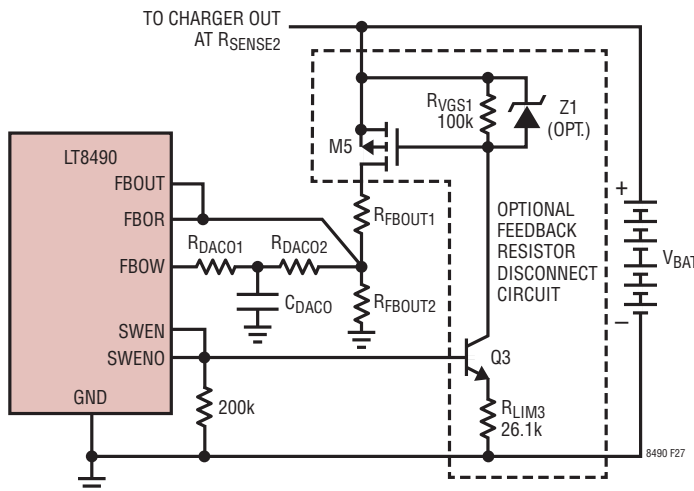
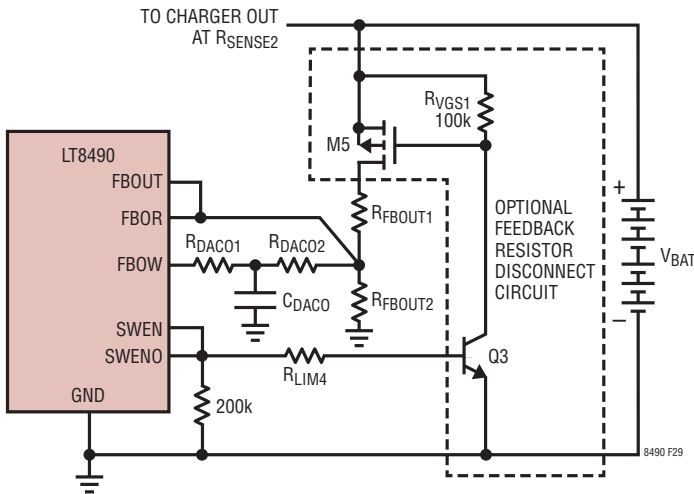
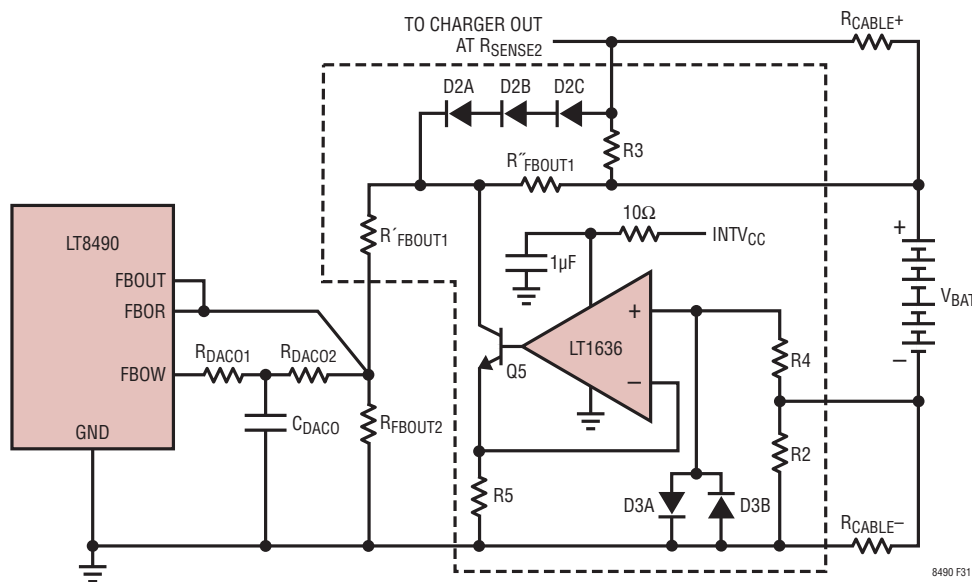
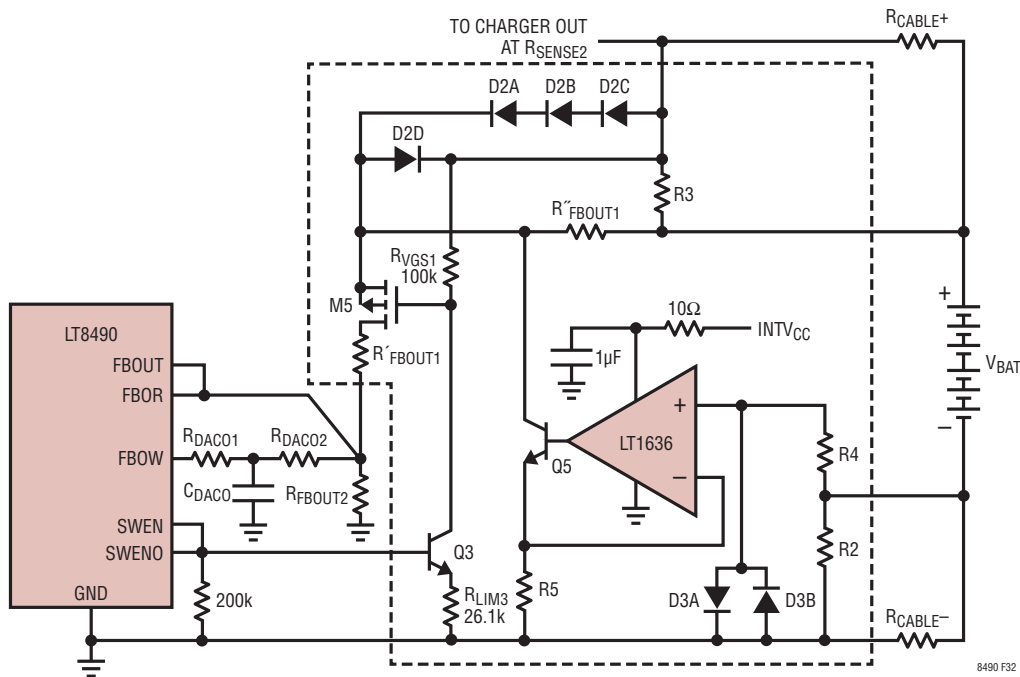

Figure 27. Optional Feedback Resistor Disconnect Circuit
Figure 28. Optional Low Battery Voltage Feedback Resistor Disconnect Circuit
Figure 31. Remove (+) and (-) Cable  $V_{IR}$  Measurement Errors
Figure 32. How to Combine Figure 27 and Figure 30
If desired, the resistors can be automatically disconnected from the battery when charging stops by using the circuit shown in Figure 27. This circuit is controlled by the SWENO signal from the LT8490 and connects the resistor feedback network when charging is taking place. When charging stops, the network is disconnected and current draw from the battery becomes negligible.
**SELECTING Z1:** Due to the transients that may occur during hot-plugging of a battery, this Zener diode is recommended to protect device M5 from excessive gate to source voltage. If using device Z1, the reverse breakdown voltage should be selected such that  $V_{GSon} < V_{Z1breakdown} < V_{GSMAX}$  where  $V_{GSMAX}$  is the maximum rated gate to source voltage specified by the device manufacturer. The BZT52C13 has a reverse breakdown voltage of 13V making it suitable for the  $R_{LIM3}$  value shown in Figure 27.
**ALTERNATE CIRCUIT:** For lower battery voltages (< 20V), Q3 in Figure 27 can saturate. To avoid this, consider connecting the emitter of Q3 directly to ground by removing  $R_{LIM3}$  and adding resistor  $R_{LIM4}$  to the base of Q3 as shown in Figure 28. Employing the optional feedback resistor disconnect at arbitrarily low battery voltages will be limited by the required gate to source voltage of M5.
Again, these effects become less significant at higher battery voltages because the charging current is typically lower and the cable drop becomes a smaller percentage of the total battery voltage. Using thicker and/or shorter battery cables is the simplest method for reducing these effects. Otherwise, the remote battery sensing circuit in Figure 31 can correct for these effects.
Figure 32 shows how to combine the remote sensing circuit (Figure 31) and the feedback resistor disconnect (Figure 27) for applications that require the most accurate battery voltage sensing and negligible battery drain when charging completes. The  $R_{VGS1}$  resistor can no longer connect to the source of M5 (as in Figure 27) since the  $R_{VGS1}$  current would also flow through  $R_{FBOUT1}$  causing an error in the measured battery voltage. Figure 31 shows that  $R_{VGS1}$  has been reconnected to the (+) battery sensing terminal.
Excessive inrush current can be mitigated by first connecting the battery or supply to the charger through a resistive path, followed quickly by a short circuit. This can be accomplished using staggered length pins in a multi-pin connector. This can also be accomplished through the use of the optional circuit shown in Figure 31 by first connecting the (+) and (-) battery remote sense connections, which allow the charger output capacitors to charge through resistors R2 and R3. Alternatively, consider the use of a Hot Swap™ controller such as the LT1641, LT4256, etc. to make a current limited connection.